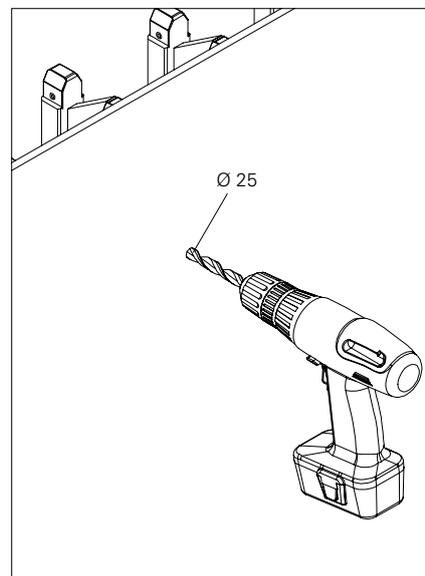

Fig. A5.07
1. Check the required space for the Anchor Positioning Plate M24 (45). A lateral clearance of 3 cm or 4 cm is required.
2. Determine the set position and drill $\varnothing 25$ mm hole from the front of the formwork. (Fig. A5.07)